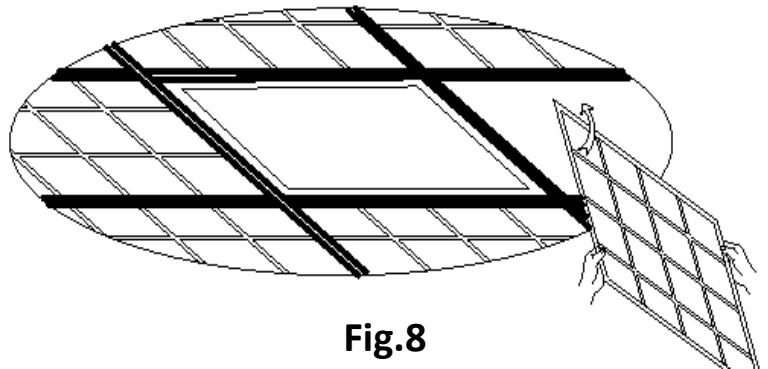

Fig.8
- Return the ceiling tile into the ceiling grid. (Fig. 8)